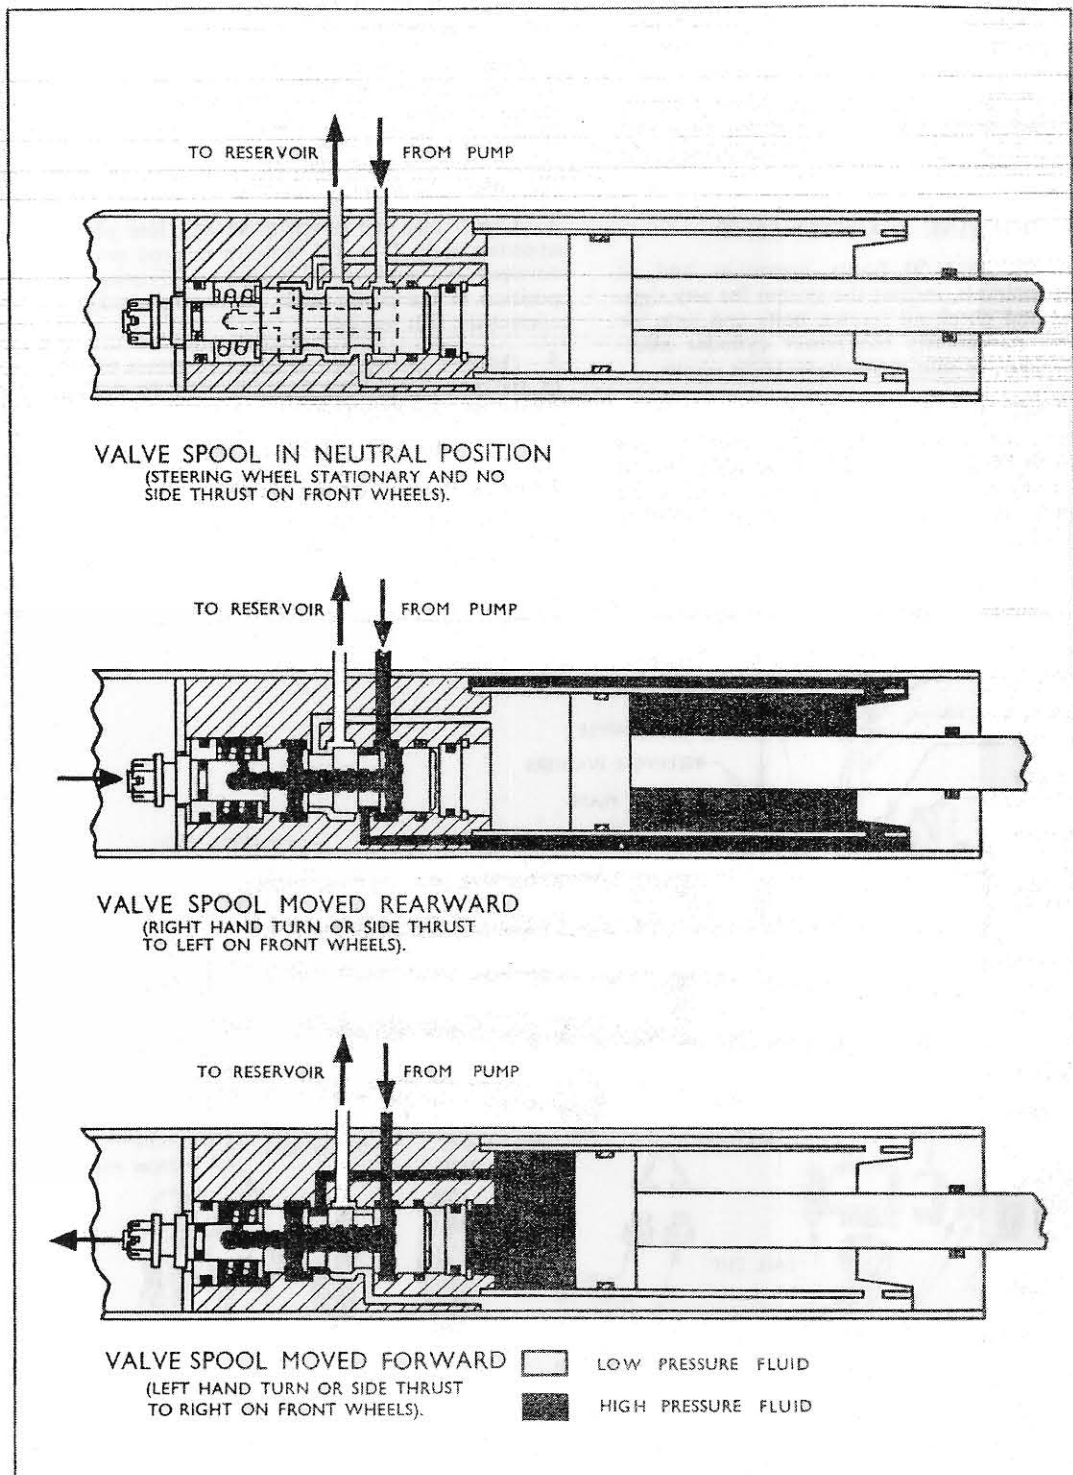
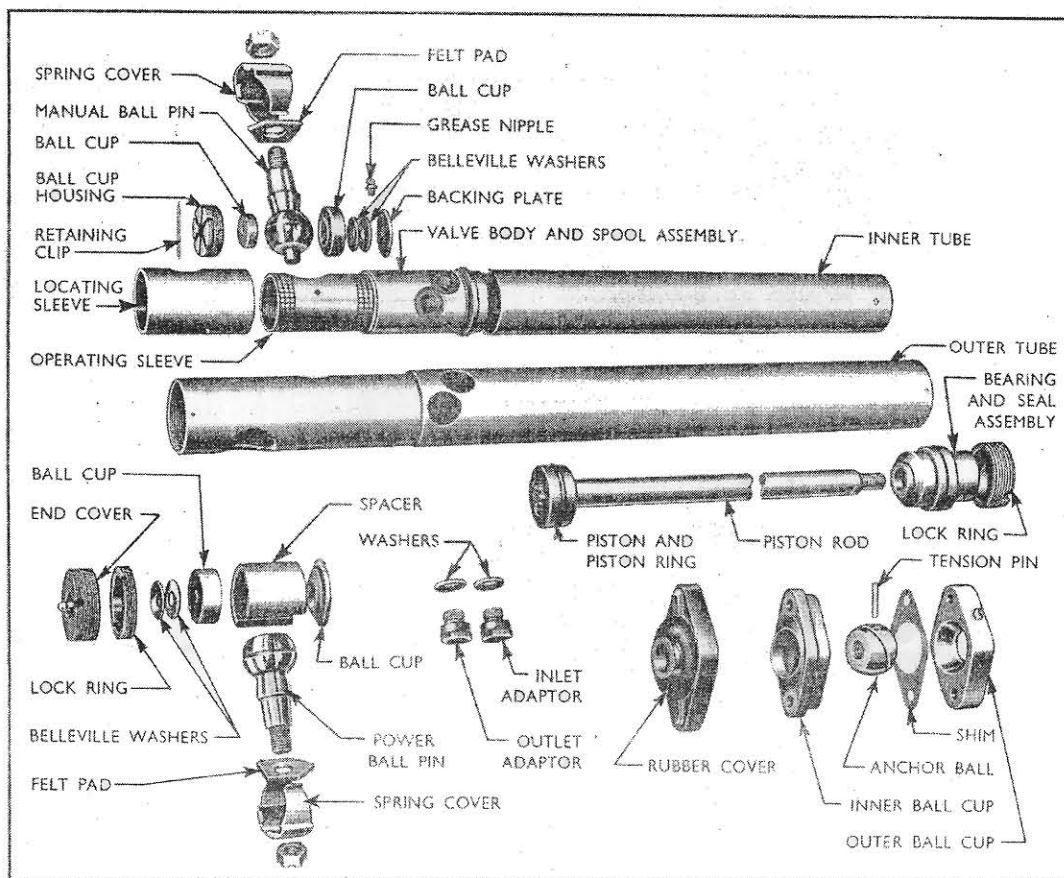

Fig. 4
Fig. 5
1½ in. (44.45 mm.) compared with 2 in. (50.80 mm.) for the four-wheeled tractor. The smaller diameter cylinder obviates the necessity for the locating collar fitted to the end of the valve body for power cylinders with the 2 in. (50.80 mm.) bore (see Fig. 9) and also makes the tricycle tractor power cylinder readily recognisable since its outer tube is the same outside diameter throughout its length, not stepped as is the power cylinder used with the four-wheeled tractor. (See Fig. 5.) In addition, the position of one of the grease nipples, with associated grease passages in the valve body, differs on the two types of power cylinder, but, despite the constructional variations mentioned, servicing procedure is virtually the same, with some parts directly interchangeable and both power cylinders operate on the same principle as described in the following.
Manual effort from the steering box is directed to the control valve spool by means of the manual ball pin, and power assistance from the ram is directed to the steered wheels by means of the power ball pin. (Fig. 5.) The control valve spool is held in the neutral (central) position by means of a pre-compressed spring and by the hydraulic forces acting on the reaction ring and washer. (See Figs. 4 and 9.)
As long as the steering wheel is not being turned and there is no side thrust acting on the front wheels, the spool remains central and the oil circulates freely on open circuit from the pump, through the control valve and back to the reservoir as shown in Fig. 4. There being no resistance to flow, no pressure build-up occurs.
It is important to note that the driver always steers against a resistance which is derived from the spring pre-load, plus the pressure build-up on the reaction ring and washer. Since this pressure is dependent on the pressure of the oil pushing on the piston it is proportional to the required steering force, thereby giving the driver the necessary "feel of the road." (See Fig. 4.)
It must be born in mind that it is not necessary to hold the steering wheel hard over when no further steering movement of the front wheels in the required direction is possible, and should this condition be encountered release the pressure from the steering wheel immediately. This will allow the control valve spool in the power cylinder to move into the central or neutral position so that the oil can then circulate freely on open circuit (see Fig. 4); the steering position of the front wheels will remain unaltered, i.e. they will remain in contact with whatever prevents further steering movement in the direction the steering wheel is turned.
the central or neutral position. In this position, oil from the pump flows past the valve spool lands and returns to the reservoir through the port in the control valve body. (See Fig. 4.)
When the steering wheel is first turned to the left the steering drag link exerts a force on the control valve spool which tends to move the spool forward. When the spool is in this position the oil passage leading to the rear of the power cylinder is closed to pump pressure, but is opened to the reservoir. The passage leading to the forward end of the cylinder is opened to pump pressure. As the oil from the pump flows into the power cylinder the pressure increases until it is sufficient to force the cylinder and steering arm forward, thus providing the power assistance for the turn. The oil displaced from the rear of the power cylinder flows back through the control valve to the reservoir. (See Fig. 4.)
When making a right turn the steering drag link moves the control valve spool rearward. The movement of the valve spool opens the oil pressure supply passage in the valve body, which leads to the rear end of the power cylinder. As the pressure in the system increases the cylinder and steering spindle arm move rearward, thus providing the power assistance for the right turn. The oil displaced from the front end of the power cylinder flows back through the control valve to the oil reservoir. (See Fig. 4.)
5. Remove the rubber abutment cover, followed by the two nuts and bolts securing the piston rod anchor ball cups to the abutment bracket, when the outer cup and shims will be free of the power cylinder (see Fig. 5), and lift the power cylinder from the tractor.